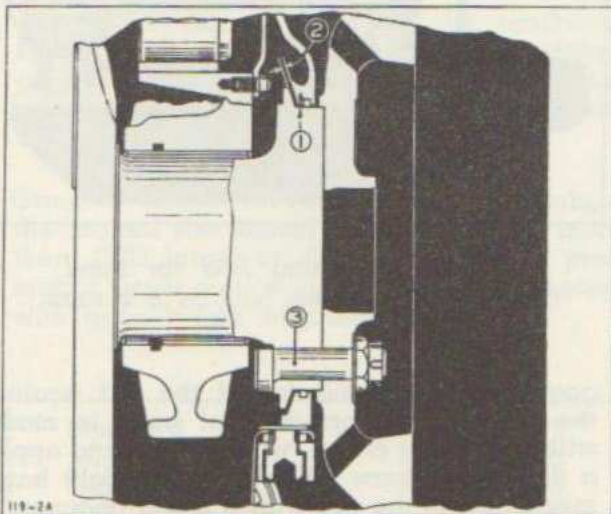

Fig. 82—Sectional View Thru Rear Oil Seal
(See Figures 82 and 83)
The lead ring will project about .008" beyond the bore of the housing to take up the radial clearance (1) in Figure 82. The end clearance (2) is .035-.045". The flywheel bolts (3) have a drive fit of .002" in the crankshaft flange.